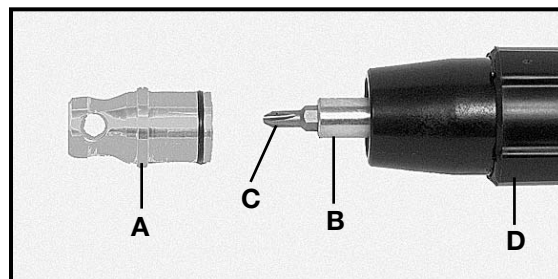

Fig. 4
2. Twist and pull the aluminum nosepiece (A), Fig. 4, out of the depth stop assembly.
3. Pull bit holder (B), Fig. 4, straight out. If it is difficult to remove, grip with pliers and pull. **NOTE:** Bit (C), Fig. 4, may be removed from bit holder by pulling straight out.
1. Pull the adjusting collar (D), Fig. 4, forward, (away from power unit), and hold while performing Step 2.